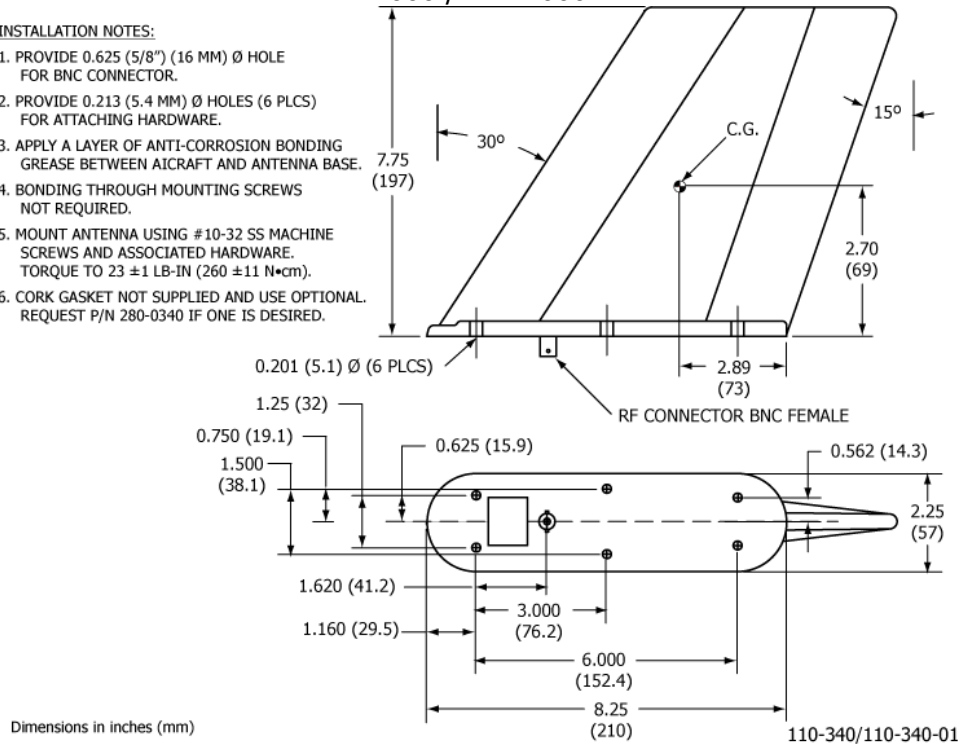

Figure 13 Blade Antenna 110-340 Outline and Dimensions
- 2) Drill the antenna mounting holes and coax connector hole referring to the appropriate antenna illustration for hole patterns and hole sizes. See Figure 13. Tighten mounting screws in accordance with the installation notes in the antenna drawing.